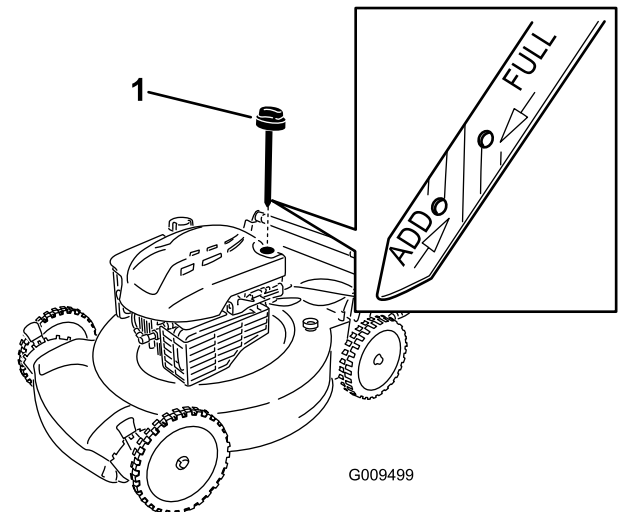

Figure 12
2. Remove the dipstick (Figure 12).
5. Remove the dipstick and read the oil level on the dipstick; refer to Figure 12.